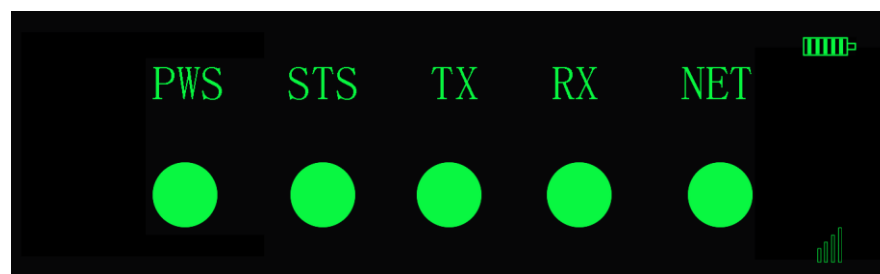

Figure 6-2 Modem Status
- The Modem status indication is shown in Table 6-1 and Figure 6-2.